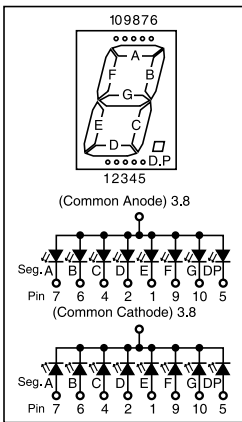

Fig. 55: 7-Segment LED display
6. 7-Segment LED display: Fig. 55 shows the standard arrangement of segment LEDs (for common-cathode and common-anode displays) and corresponding DIP pin numbers (spacing 2.54 mm). The spacing between the two rows of pins is a function of digit size.